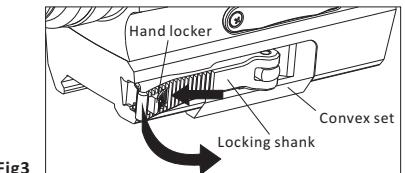

Fig3
2. Designed with our patented nonlinear cam clamping technique, without other tools for mounting rail , push back the locker, life up hand shank to loosen the convex set , Inserting the device on rail, push down the hand shank , locker will be auto locked , the installation complete.(see fig 3)